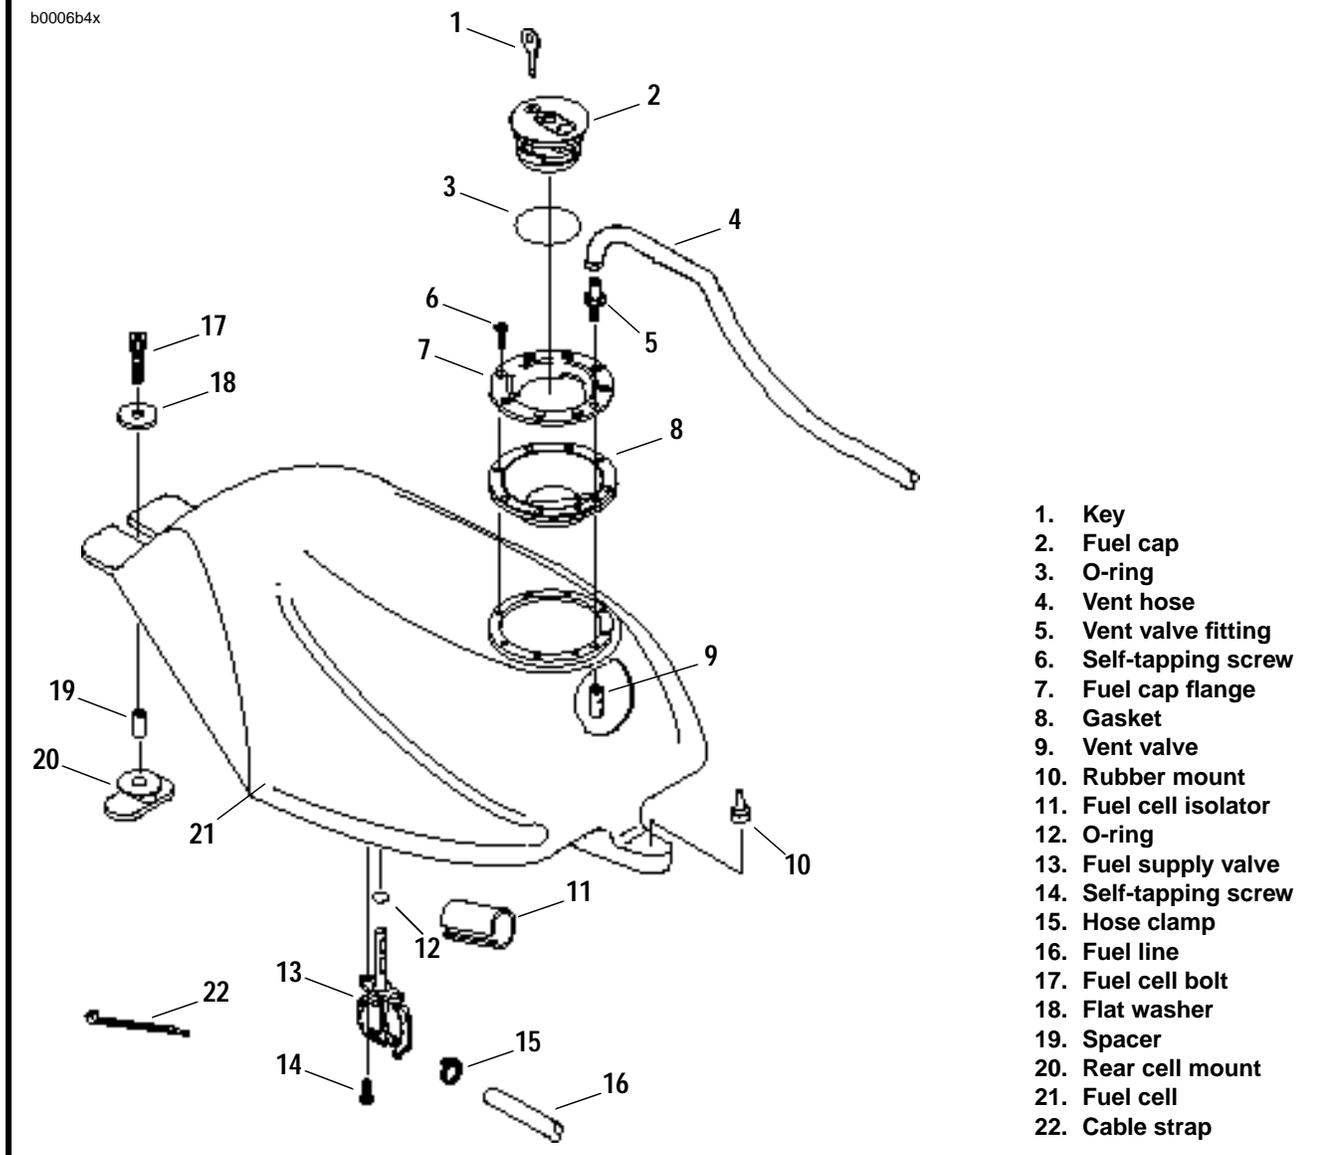

Figure 1. Fuel Cell
4. See Figure 1. Disconnect overflow vent hose (4) from vent valve fitting (5).
1. See Figure 1. Place fuel cell (21) on frame. Install fuel cell bolt (17) and flat washer (18). Tighten fuel cell bolt to 10-12 ft-lbs (14-16 Nm) torque.